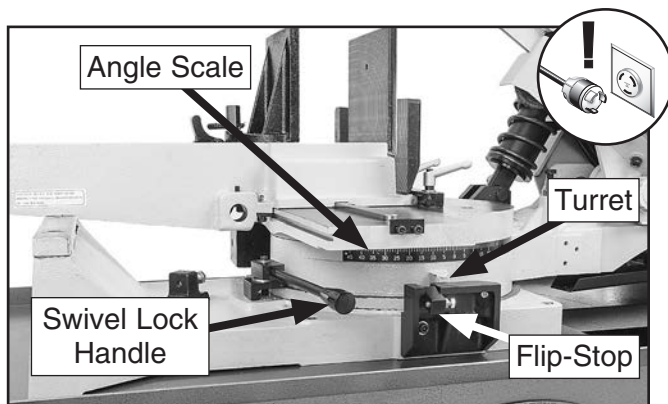

Figure 48. Swivel base controls for cuts to right.
3. Rotate flip-stop out completely, as shown in **Figure 48**.
4. Rotate swivel lock handle (see **Figure 48**) toward base, then rotate headstock *counter-clockwise* to desired angle using angle scale.
4. Rotate swivel lock handle (see **Figure 48**), toward base, then rotate headstock *clockwise* to desired angle, using angle scale as a guide.